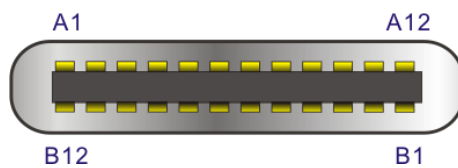

Figure 3-26: USB Type-C Port Location
- CN Pinouts:** See **Table 3-25** and **Figure 3-26**